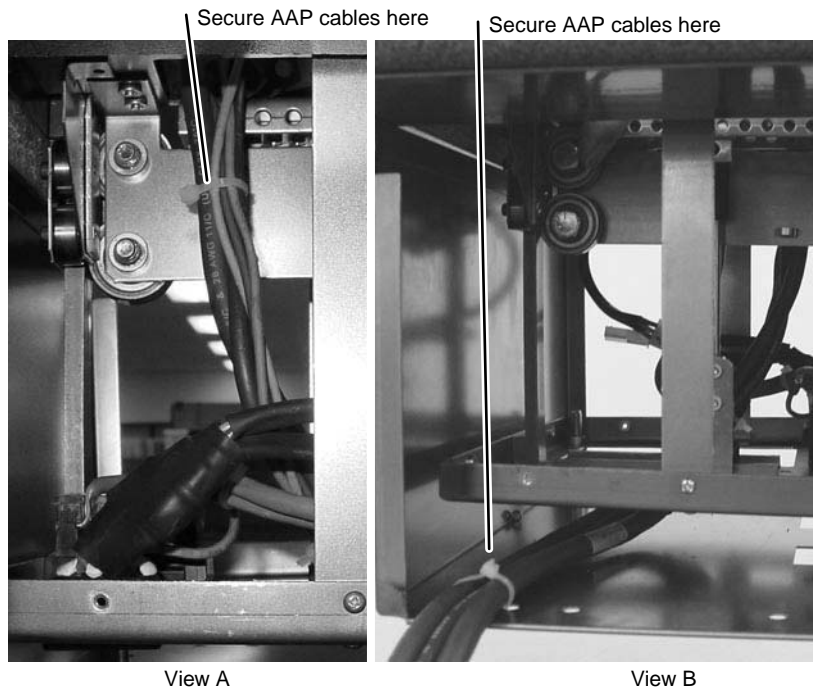

Figure 2-6 — HSA 802 AAP cable routing
2. Experiment with AAP cable positioning to ensure that the cables do not rub against the edges of the AAP cable hole and to ensure that the cable pull does not restrict the movement of the top panel. Figure 2-6 shows the cables routed to the side, which proved effective in tests at Extron.